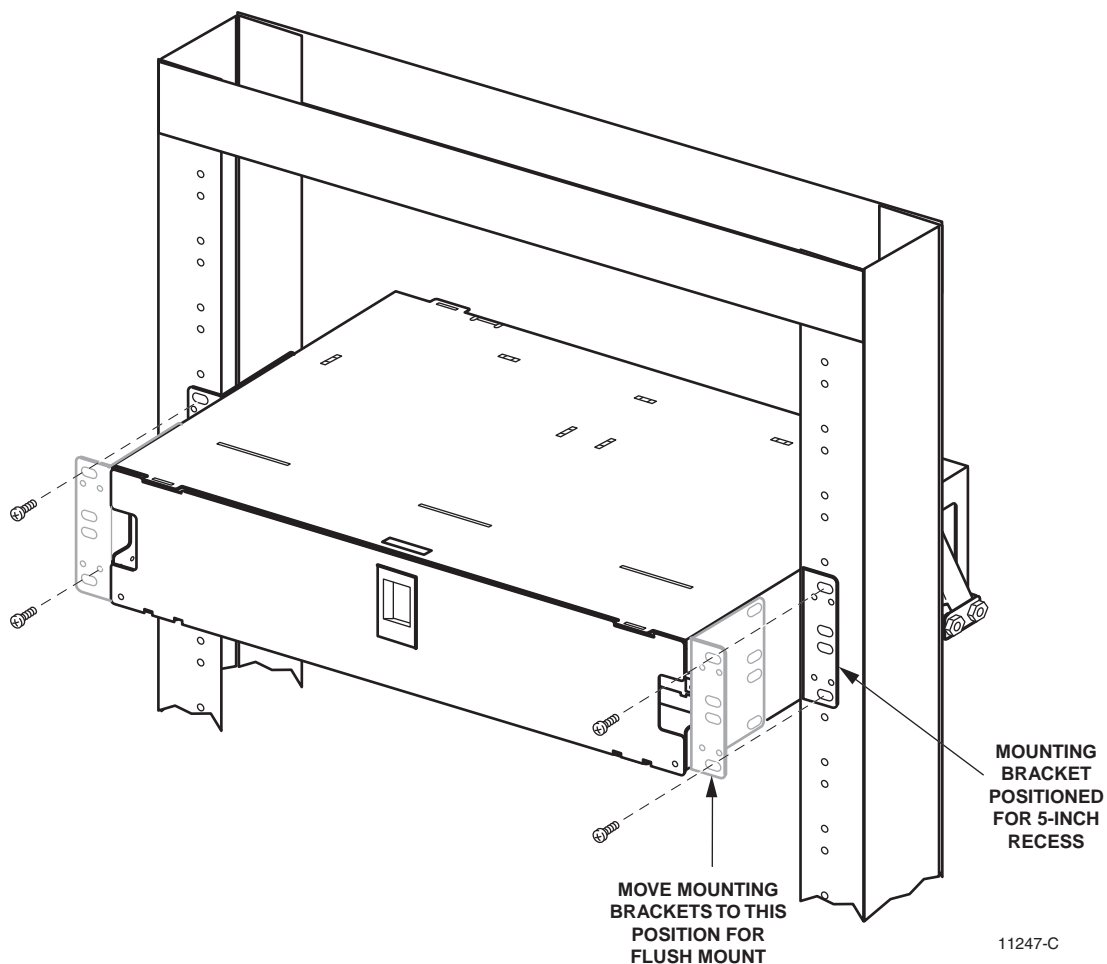

Figure 1. Installing a Chassis on a 19-Inch Rack
See Figure 1. Use the following procedure.
- a. For 19-inch rack, flush mount, use Figure 1 forward position;